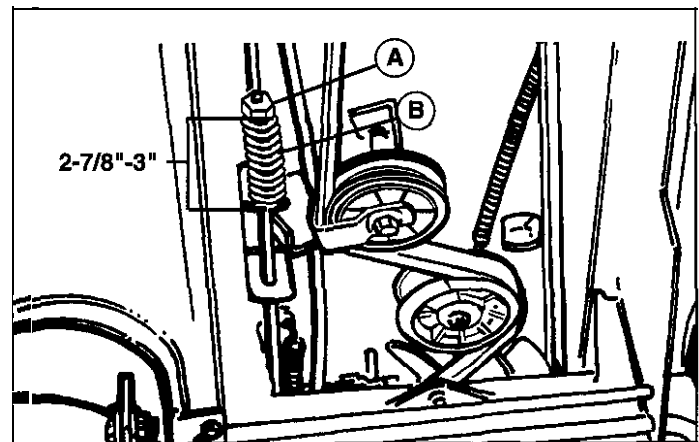

Figure 19. Brake Spring Adjustment
3. See figure 19. Adjust the brake rod nut (A) until spring (B) is compressed to 2-7/8" - 3" length.